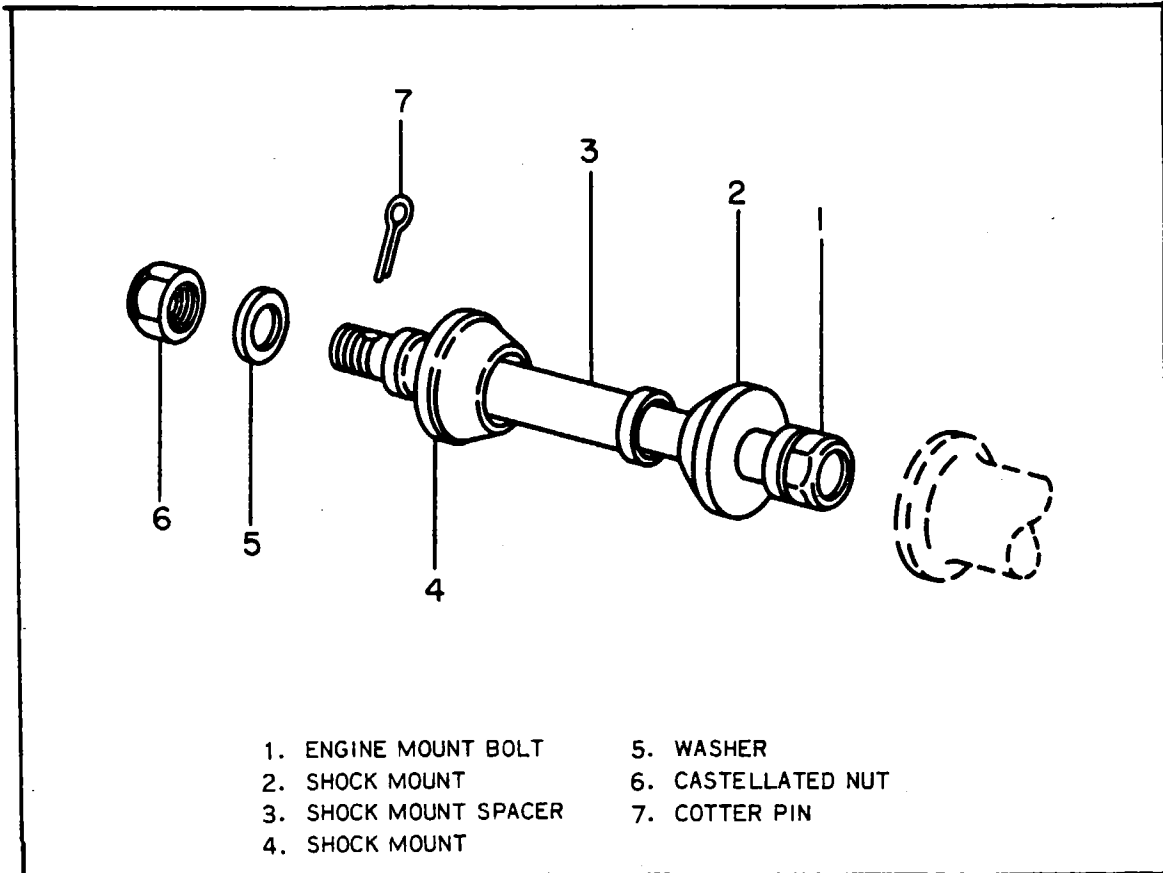

Figure 8-4. Lord Mount, Exploded View
- a. Insert engine mounting bolt (1, Figure 8-4) in the engine mount and slide the Lord shock mount (2) onto the bolt so that the pin hole in its flat surface engages the pin protruding from the engine mount at the attachment point.
- b. Slide the shock mount spacer (3) onto the bolt, rotating it until it is properly seated within the recess in the conical-surfaced side of the shock mount. Be sure the lobe at the end of the sleeve is positioned correctly in the out-of-round hole in the mount.